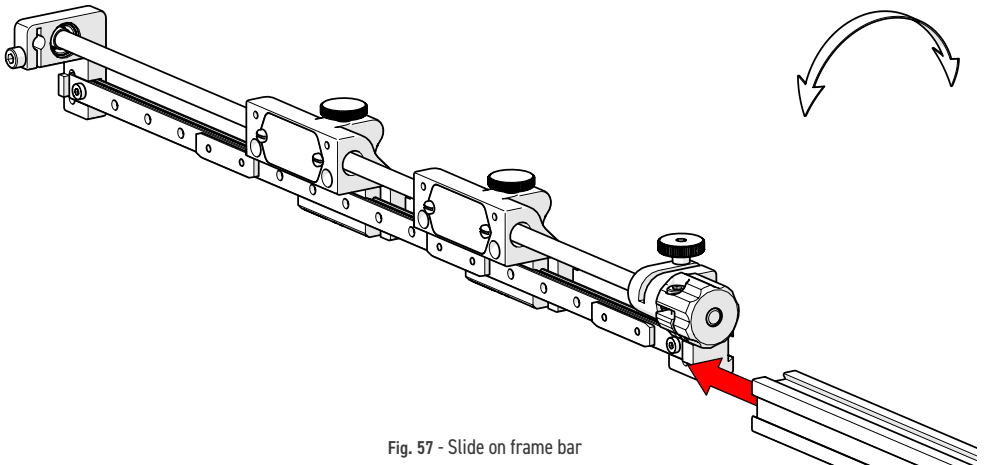
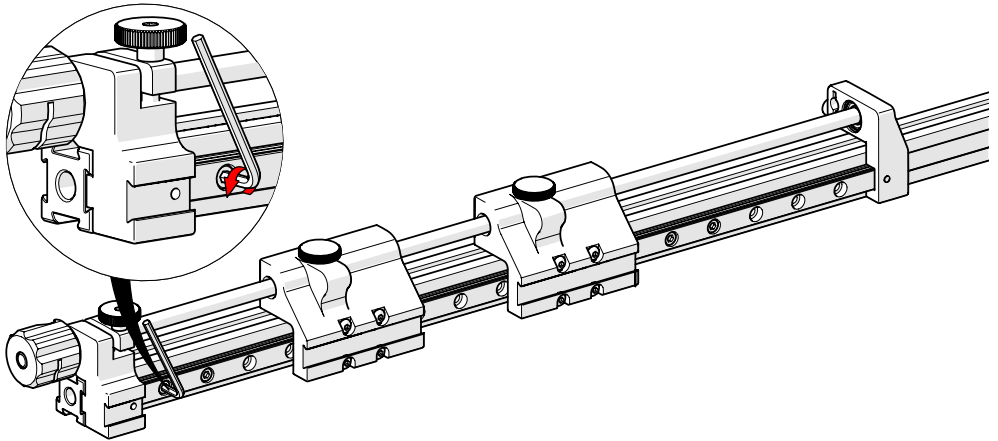

Fig. 57 - Slide on frame bar
Fig. 58 - Tighten dovetail nuts along linear rail
2. Slide the assembly onto the frame bar (Fig. 57) and tighten both hexagonal screws in each dovetail nut (Fig. 58).